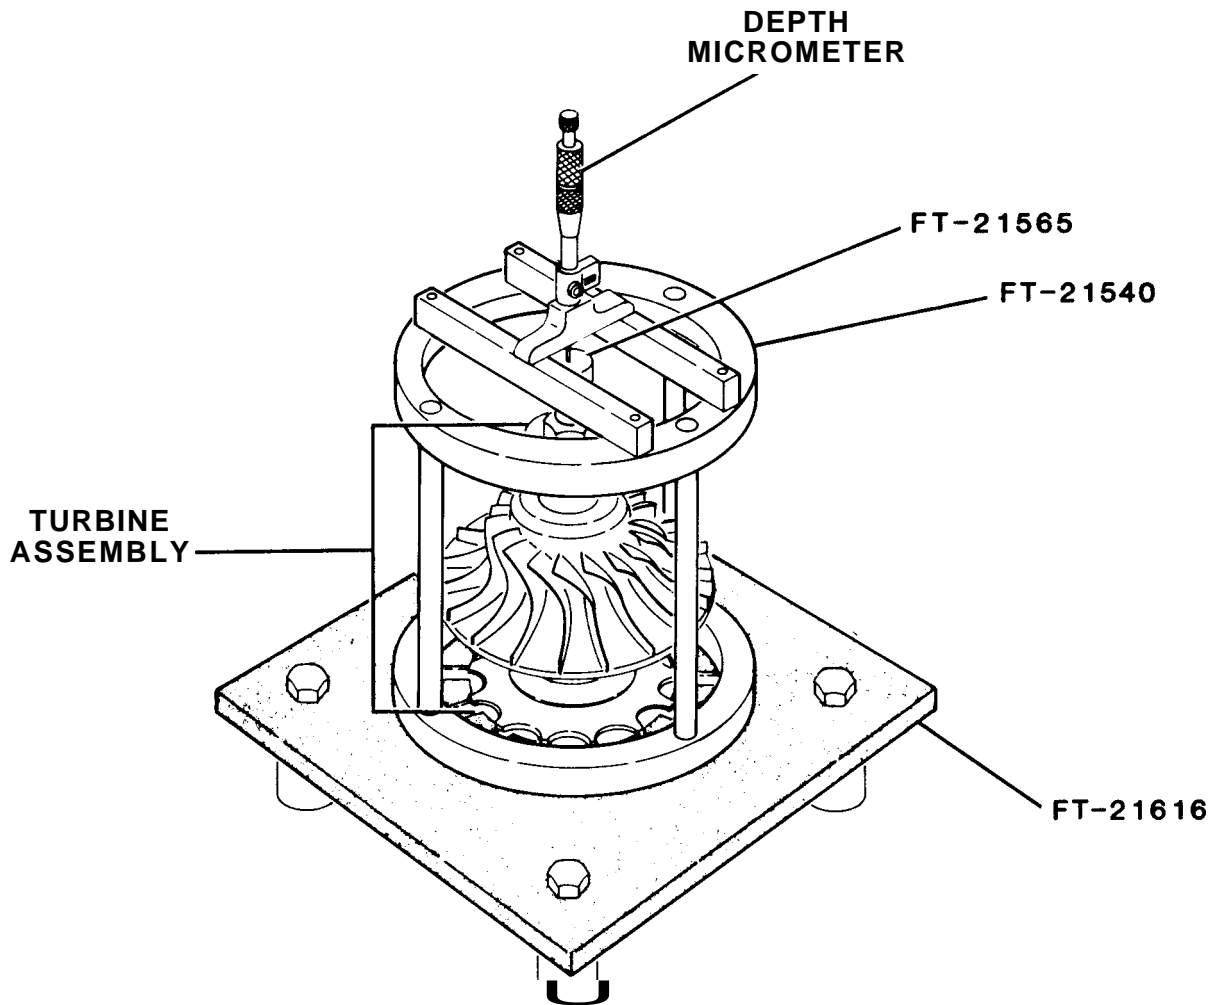

Figure 8-12. Obtaining Reading for Turbine Shaft Stretch Using Fabricated Tools FT-21540 and FT-21565
(9) Place fabricated tool (FT-21 540, Figure 8-12) over assembly. Place fabricated tool (FT-21565) on top of the turbine wheel shaft Take a base reading from top of fabricated tool (FT-21565) to top of fabricated tool (FT-21540) using depth micrometer Note the reading The shaft must be stretched 0 007 to 0 009 Inch (0 018-0 023 cm) from the original reading Remove fabricated tools (FT-21540 and FT-21565)